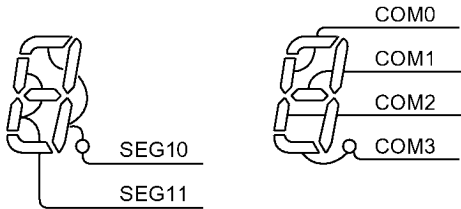

Figure 15-5 Example of COM, SEG Pin Connection (1/4 duty)
Example :(1) To display using 1/4 duty LCD a numerical value which corresponds to the LCD data stored in data memory at address 80H (when pins COM and SEG are connected to LCD as in Figure 15-5), display data become as shown in Table 15-5.